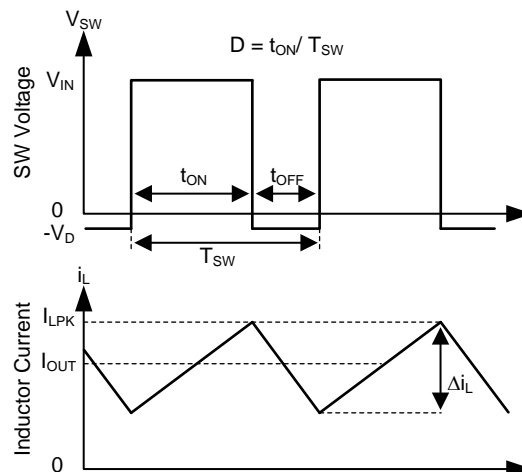

Figure 13. SW Node and Inductor Current Waveforms in Continuous Conduction Mode (CCM)
The following operating description of the LMR23610 refers to the Functional Block Diagram and to the waveforms in Figure 13. LMR23610 is a step-down synchronous buck regulator with integrated high-side (HS) and low-side (LS) switches (synchronous rectifier). The LMR23610 supplies a regulated output voltage by turning on the HS and LS NMOS switches with controlled duty cycle. During high-side switch ON time, the SW pin voltage swings up to approximately V_{IN} , and the inductor current i_L increase with linear slope $(V_{IN} - V_{OUT}) / L$. When the HS switch is turned off by the control logic, the LS switch is turned on after an anti-shoot-through dead time. Inductor current discharges through the LS switch with a slope of $-V_{OUT} / L$. The control parameter of a buck converter is defined as duty cycle $D = t_{ON} / T_{SW}$, where t_{ON} is the high-side switch ON-time and T_{SW} is the switching period. The regulator control loop maintains a constant output voltage by adjusting the duty cycle D . In an ideal buck converter, where losses are ignored, D is proportional to the output voltage and inversely proportional to the input voltage: $D = V_{OUT} / V_{IN}$.